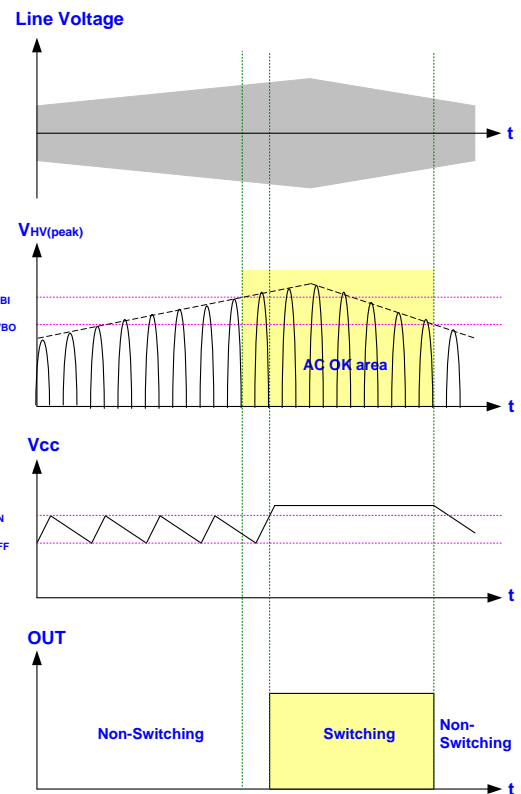

Fig. 14
The LD5760 features Burn-in/out function on HV pin. As the built-in comparator detects the half wave rectify line voltage condition, it will shut off the controller to prevent from any damage. Fig. 14 shows the operation. When $V_{HV} < HVBO$, the gate output will remain off even when the VCC already reaches UVLO(ON). It therefore forces the VCC hiccup between UVLO(ON) and UVLO(OFF). Unless the line voltage rises over $HVBI V_{AC}$, the gate output will not start switching even as the next UVLO(ON) is tripped. A hysteresis is implemented to prevent the false-triggering during turn-on and turn-off.